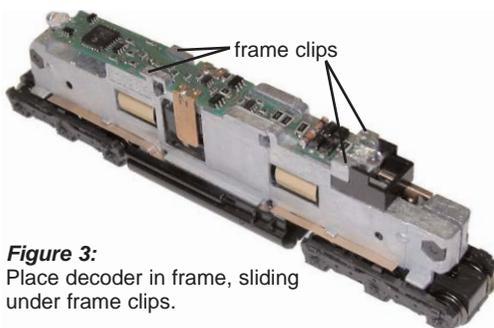

Figure 3: Place decoder in frame, sliding under frame clips.
3. Install the DN163K1a decoder by tilting it slightly as you insert the front corners into the forward frame clips. Press the decoder motor clips down over the motor contacts and slide the decoder board forward so the board's corners are under the frame clips. Figure 3
5. Replace the locomotive shell. Digitrax decoders are set up with configuration variable (CV) default values so you can run your locomotive right away using address 03.